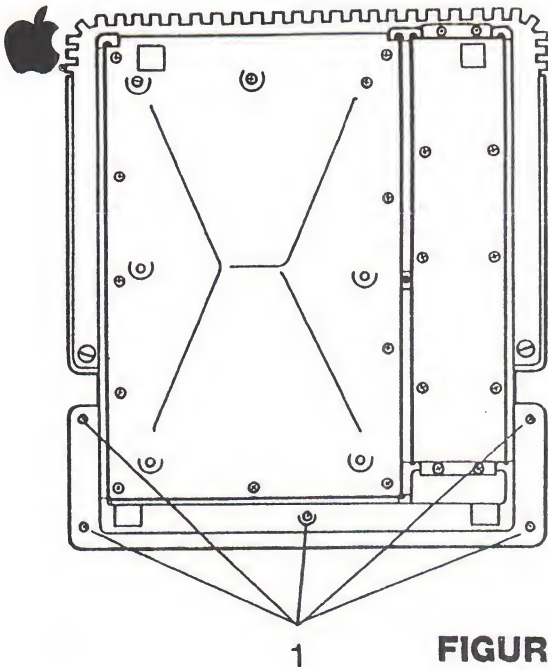

FIGURE 8
3. Remove the five keyboard cover mounting screws. (See Figure 8, Item 1).